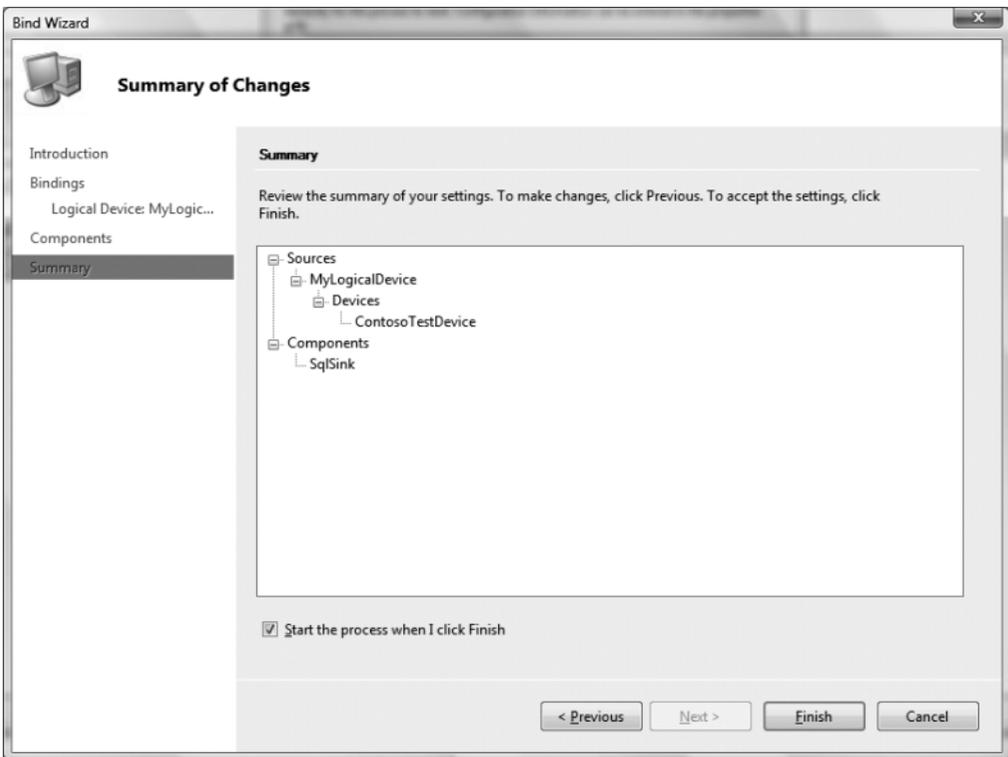

Figure 3-15. Finalizing the Bind wizard
- From the Summary of Changes dialog, as shown in Figure 3-15, click the “Start the process when I click Finish” check box. Click Finish to close the Bind wizard and start the process.